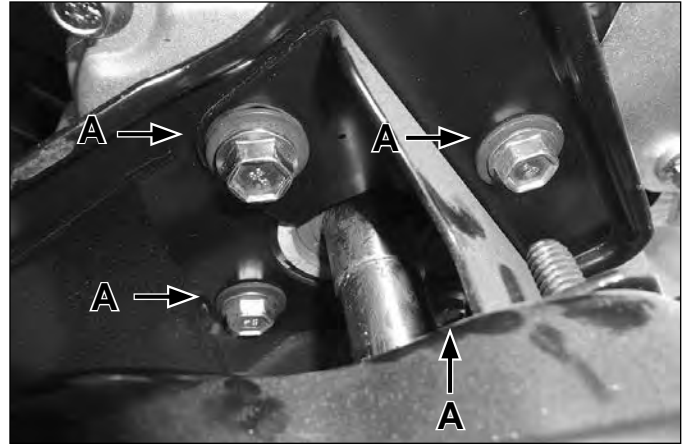

Fig. 017
11. Remove the four engine mounting bolts that secure the engine to the engine plate (A) (Fig. 017).